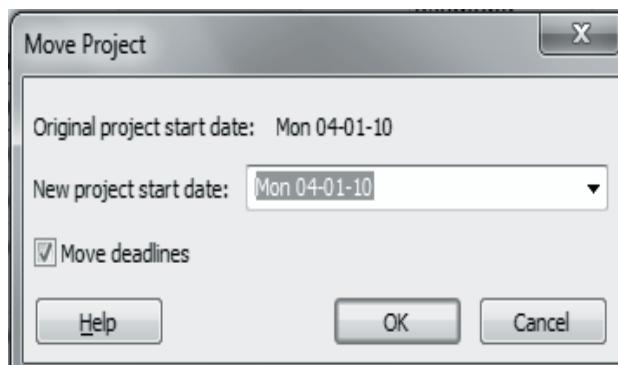

Figure 10.19: Move Project Dialog Box
1. Open the project and on the **Project** tab, click **Move Project** under **Schedule** group of the **Ribbon**. This displays the **Move Project** dialog box as shown in figure 10.19.